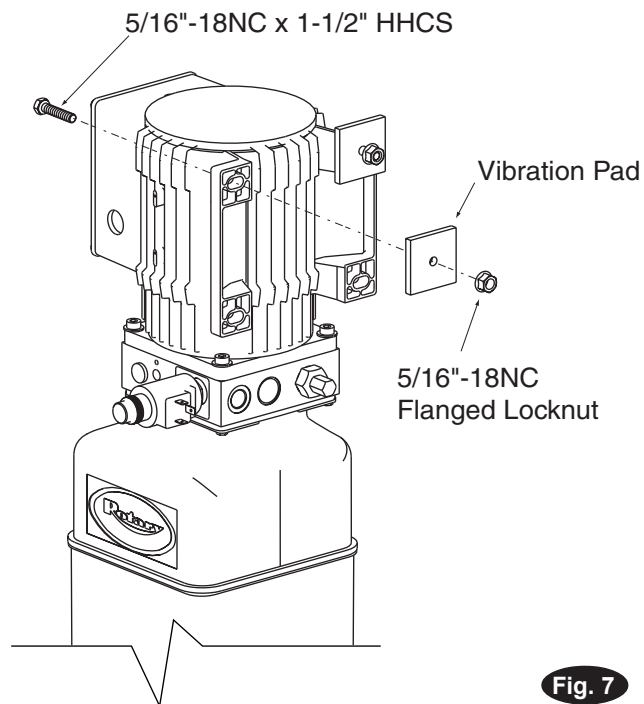
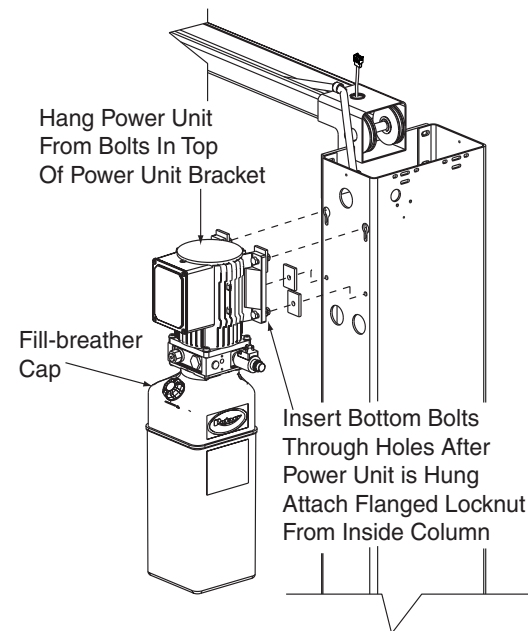

Fig. 7
Fig. 8
11. Power Unit: Put (2) 5/16"-18NC x 1-1/2" HHCS thru top holes in power unit bracket using Vibration Pad to hold in place, Fig. 7. Install 5/16"-18NC Flanged Nuts until bolt end is flush with end of nut. Install power unit onto column extension, Fig. 8. Slide bolt/nut combination into top set of holes and down to bottom of slot. Install HHCS, Vibration Pad, and Flanged HHCS in bottom power unit holes and tighten. (Be sure to place vibration pad between power unit and column extension). Tighten top HHCS and Nut.
13. Oil Filling: Remove fill-breather cap on power unit, Fig. 8. Fill with (8) quarts of Dexron III ATF, or hydraulic fluid that meets ISO 32 specifications. Replace fill-breather cap.